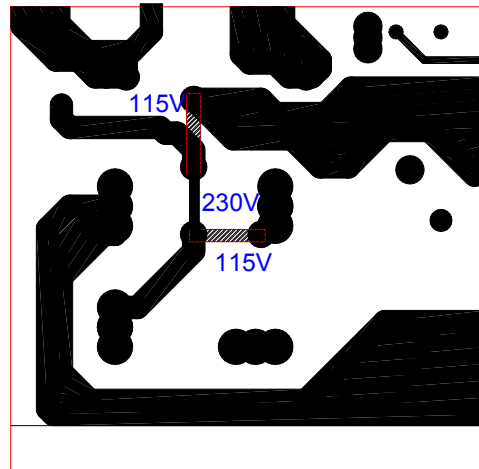

Figure 14. 230VAC or 115 VAC selection
6. To select the desired mains voltage, install the jumpers as shown in Figure 14.